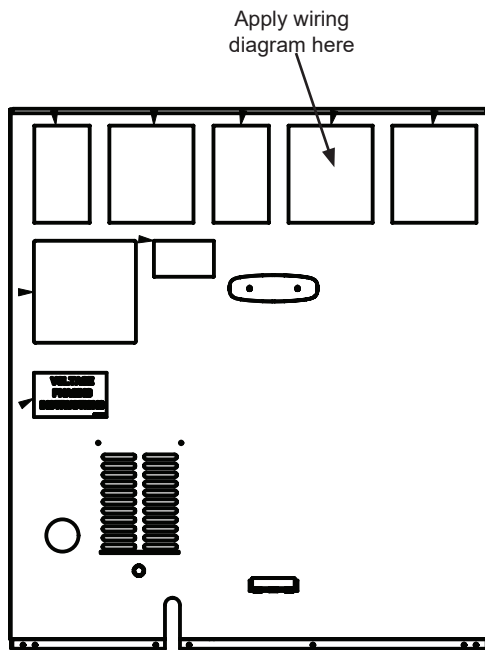

Figure 7
8. Apply wiring diagram to the control panel. See Fig. 7.